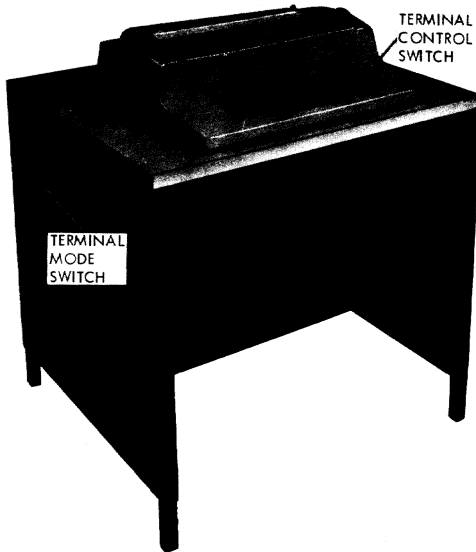

Figure 5. IBM 2741 Communications Terminal
The IBM 2741 Communications Terminal consists of an IBM Selectric typewriter on a typewriter stand. (See Figure 5.) The stand includes the electronic controls needed for communication with the time sharing system. The only auxiliary component possibly required or used with the 2741 is a telephone-like modulator-demodulator, or modem. If the terminal is permanently wired to the time sharing system, no dial-up facility is needed; merely turning on the terminal results in communication with the computer. Instructions for operating the 2741 in the time sharing system are given below. For a detailed de-
1. Check that the terminal mode switch (on left side of typewriter stand, as shown in Figure 5) is set to LCL. This ensures that the terminal is disconnected from the communications line to the computer.
2. Set the terminal power switch (on right side of terminal keyboard, shown in Figure 5) to on by pressing down the ON portion of the switch. The red area of the switch should now be exposed, and the terminal is functioning as a Selectric typewriter.